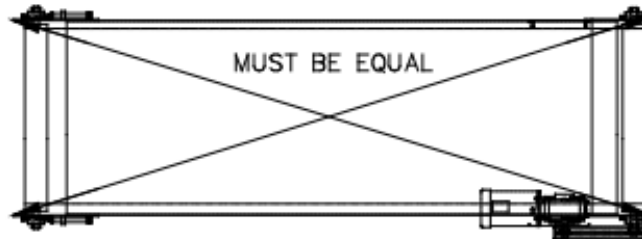

Figure 2.4 - Check frame for square
- Check all frame sections for square. See *Figure 2.4*. Use a string stretched from opposing corners at edge of frame to aid in straightening conveyor. Ensure that both dimensions are the same. Adjust or shim supports as required. Both sides of the conveyor must be in the same plane (frame not twisted).